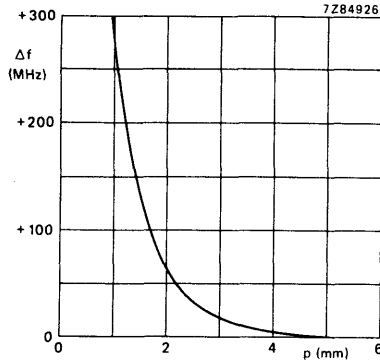

Fig. 4 Tuning of the oscillator as a function of the air gap between tuning screw and resonator: $f = f_0 + \Delta f$.
5. Accurate setting of the desired frequency is obtained by adjusting and locking the main tuning screw as well as possible. The power optimization screw is now slightly detuned from its position obtained in 4 to afford the residual fine tuning of frequency. Generally the associated output power degradation is then very small. see Fig. 4. If necessary, the procedures 4 and 5 can be repeated.
Fig. 4 Fine tuning Δf and associated power variation as a function of the coaxial tuning screw position at constant cavity tuning. $V_d = 12$ V; $P_0 = 88$ mW; $f = (11\,000 + \Delta f)$ MHz.
4. A small screw on the top of the oscillator allows a limited range of tuning. Turning the screw clockwise, starting from the flush position of the internal pin ($\Delta f = 0$), increases the frequency. When tuning up to 0,5% (i.e. approx. $\Delta f = +50$ MHz), the stability of the oscillator remains unaffected; above that value the df/dT of the oscillator gradually increases due to Q-degradation of the dielectric resonator. A typical tuning curve is given in Fig. 4.